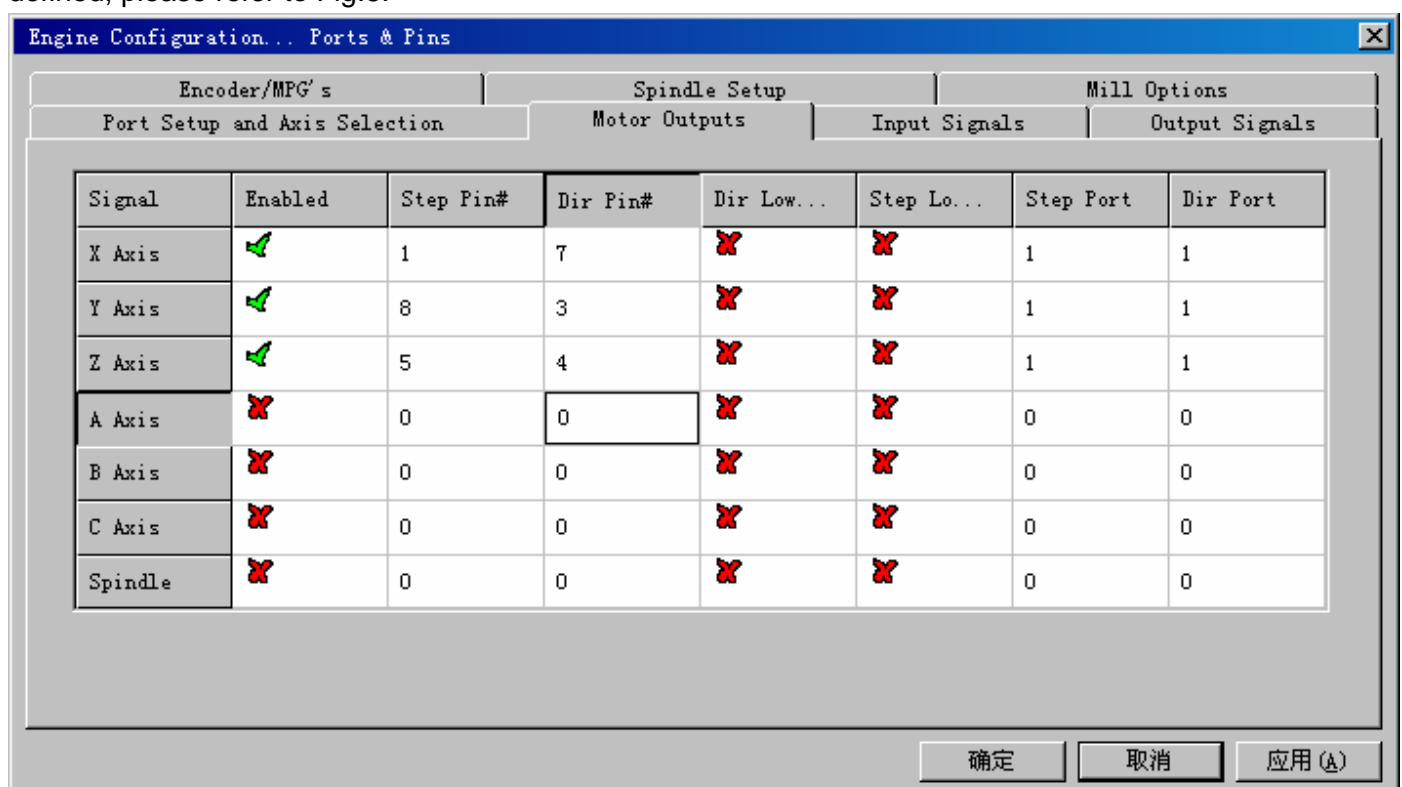
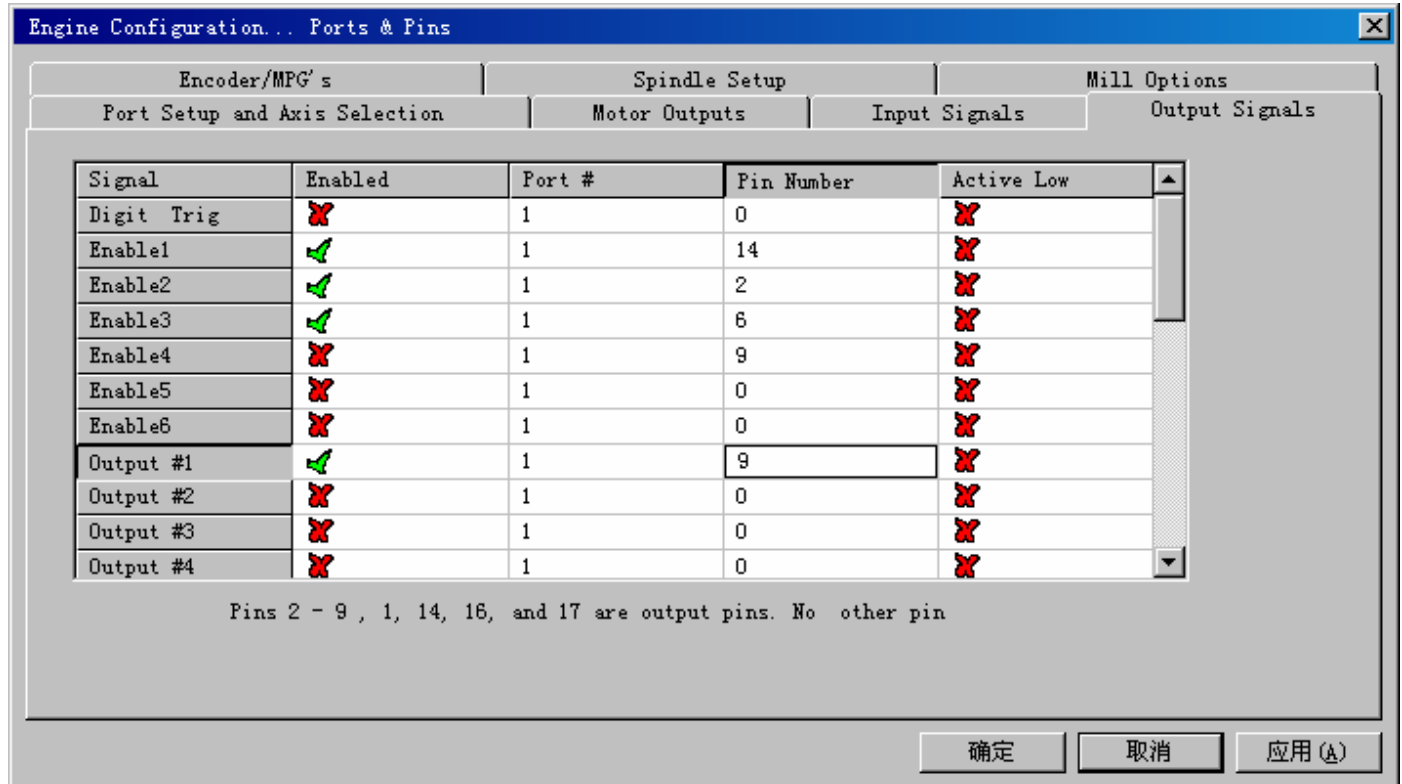

Fig.5
Fig.6
To set up the basic frequency within the above Circle 1. This parameter will affect the rotational speed of the motor. After the setup of basic frequency, select Circle 2 where *Configuration Scripting* will be defined, please refer to Fig.5.
Then select the *output signals* column, as shown in Fig.6, and set up the corresponding items per the setup described in the circle.
- **Please double check the software settings according to the Fig.5 and Fig.6**